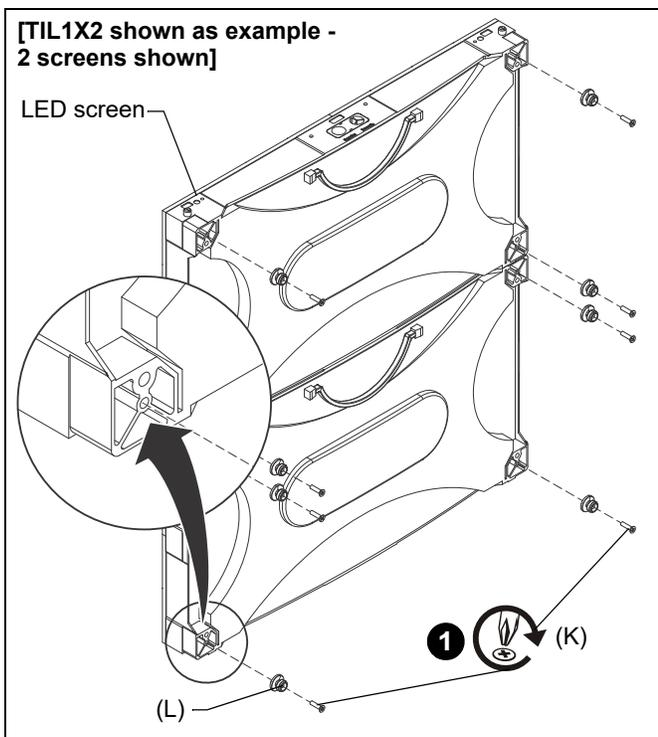

Figure 1
1. Attach four mounting buttons (L) per LED screen, one to each corner of LED screen, with four M5 x 20mm Phillips flat head screws (K). (See Figure 1)